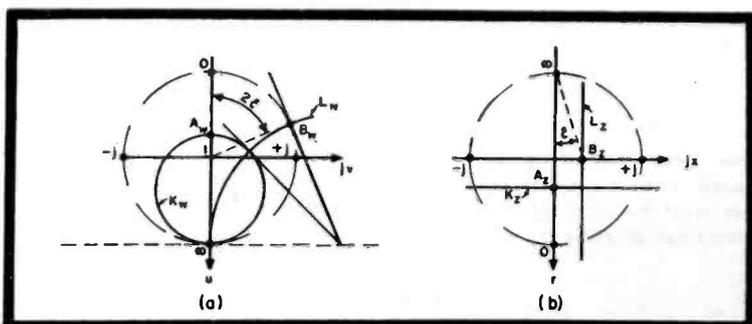

Figure 2
In Fig. 2 we have again drawn the z plane and w plane. From (2), we see that any real value of z , for instance $z = r_0$, will furnish a real value of
include a 90° angle with the real (u) axis of the w plane. Evidently, then, they have the position of the circle K_w in Figure 2, which corresponds to the straight line K_z . K_w can be defined if we find just one more point on its circumference, like the point of intersection with the real axis, A_w . In this point $z = r_0$ and the corresponding point A_w lies at $w = \frac{r_0 - 1}{r_0 + 1}$